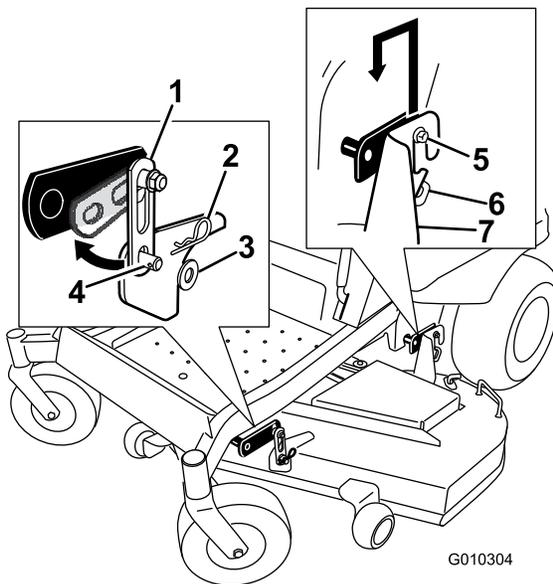

Figure 64
5. Lift the rear of the mower deck and guide the hanger brackets over the rear hanger bolts (Figure 64).
6. Attach the front support on the mower deck to the front deck hangers and secure them with a washer and hairpin cotter (Figure 64).
2. Remove the hardware from the front deck hangers on both sides of the deck (Figure 64).
3. Carefully lift the deck off the rear hanger bolts and lower the front of the mower deck to the ground (Figure 64).